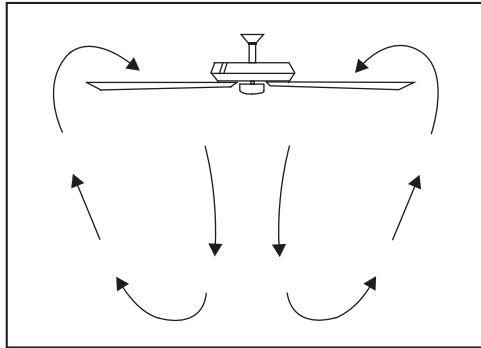

Figure 21
**Warm weather** - (Counter-Clockwise direction) A downward air flow creates a cooling effect.(Fig. 21) This allows you to set your air conditioner on a higher setting without affecting your comfort.